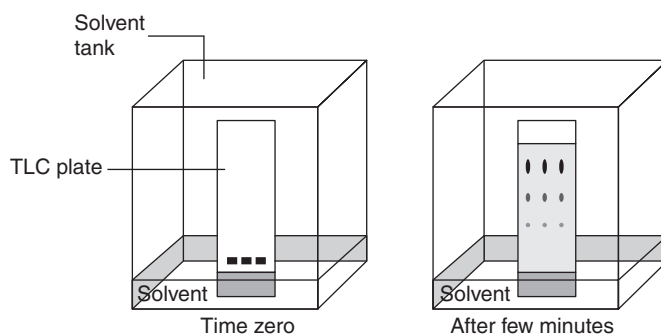

Figure 1 Different components travelling different distances.
4. The separation of mixture into different spots occurs. Different components of the mixture travel up to different distances with the eluant depending upon the extent of adsorption on the adsorbent as shown in the below figure 1.